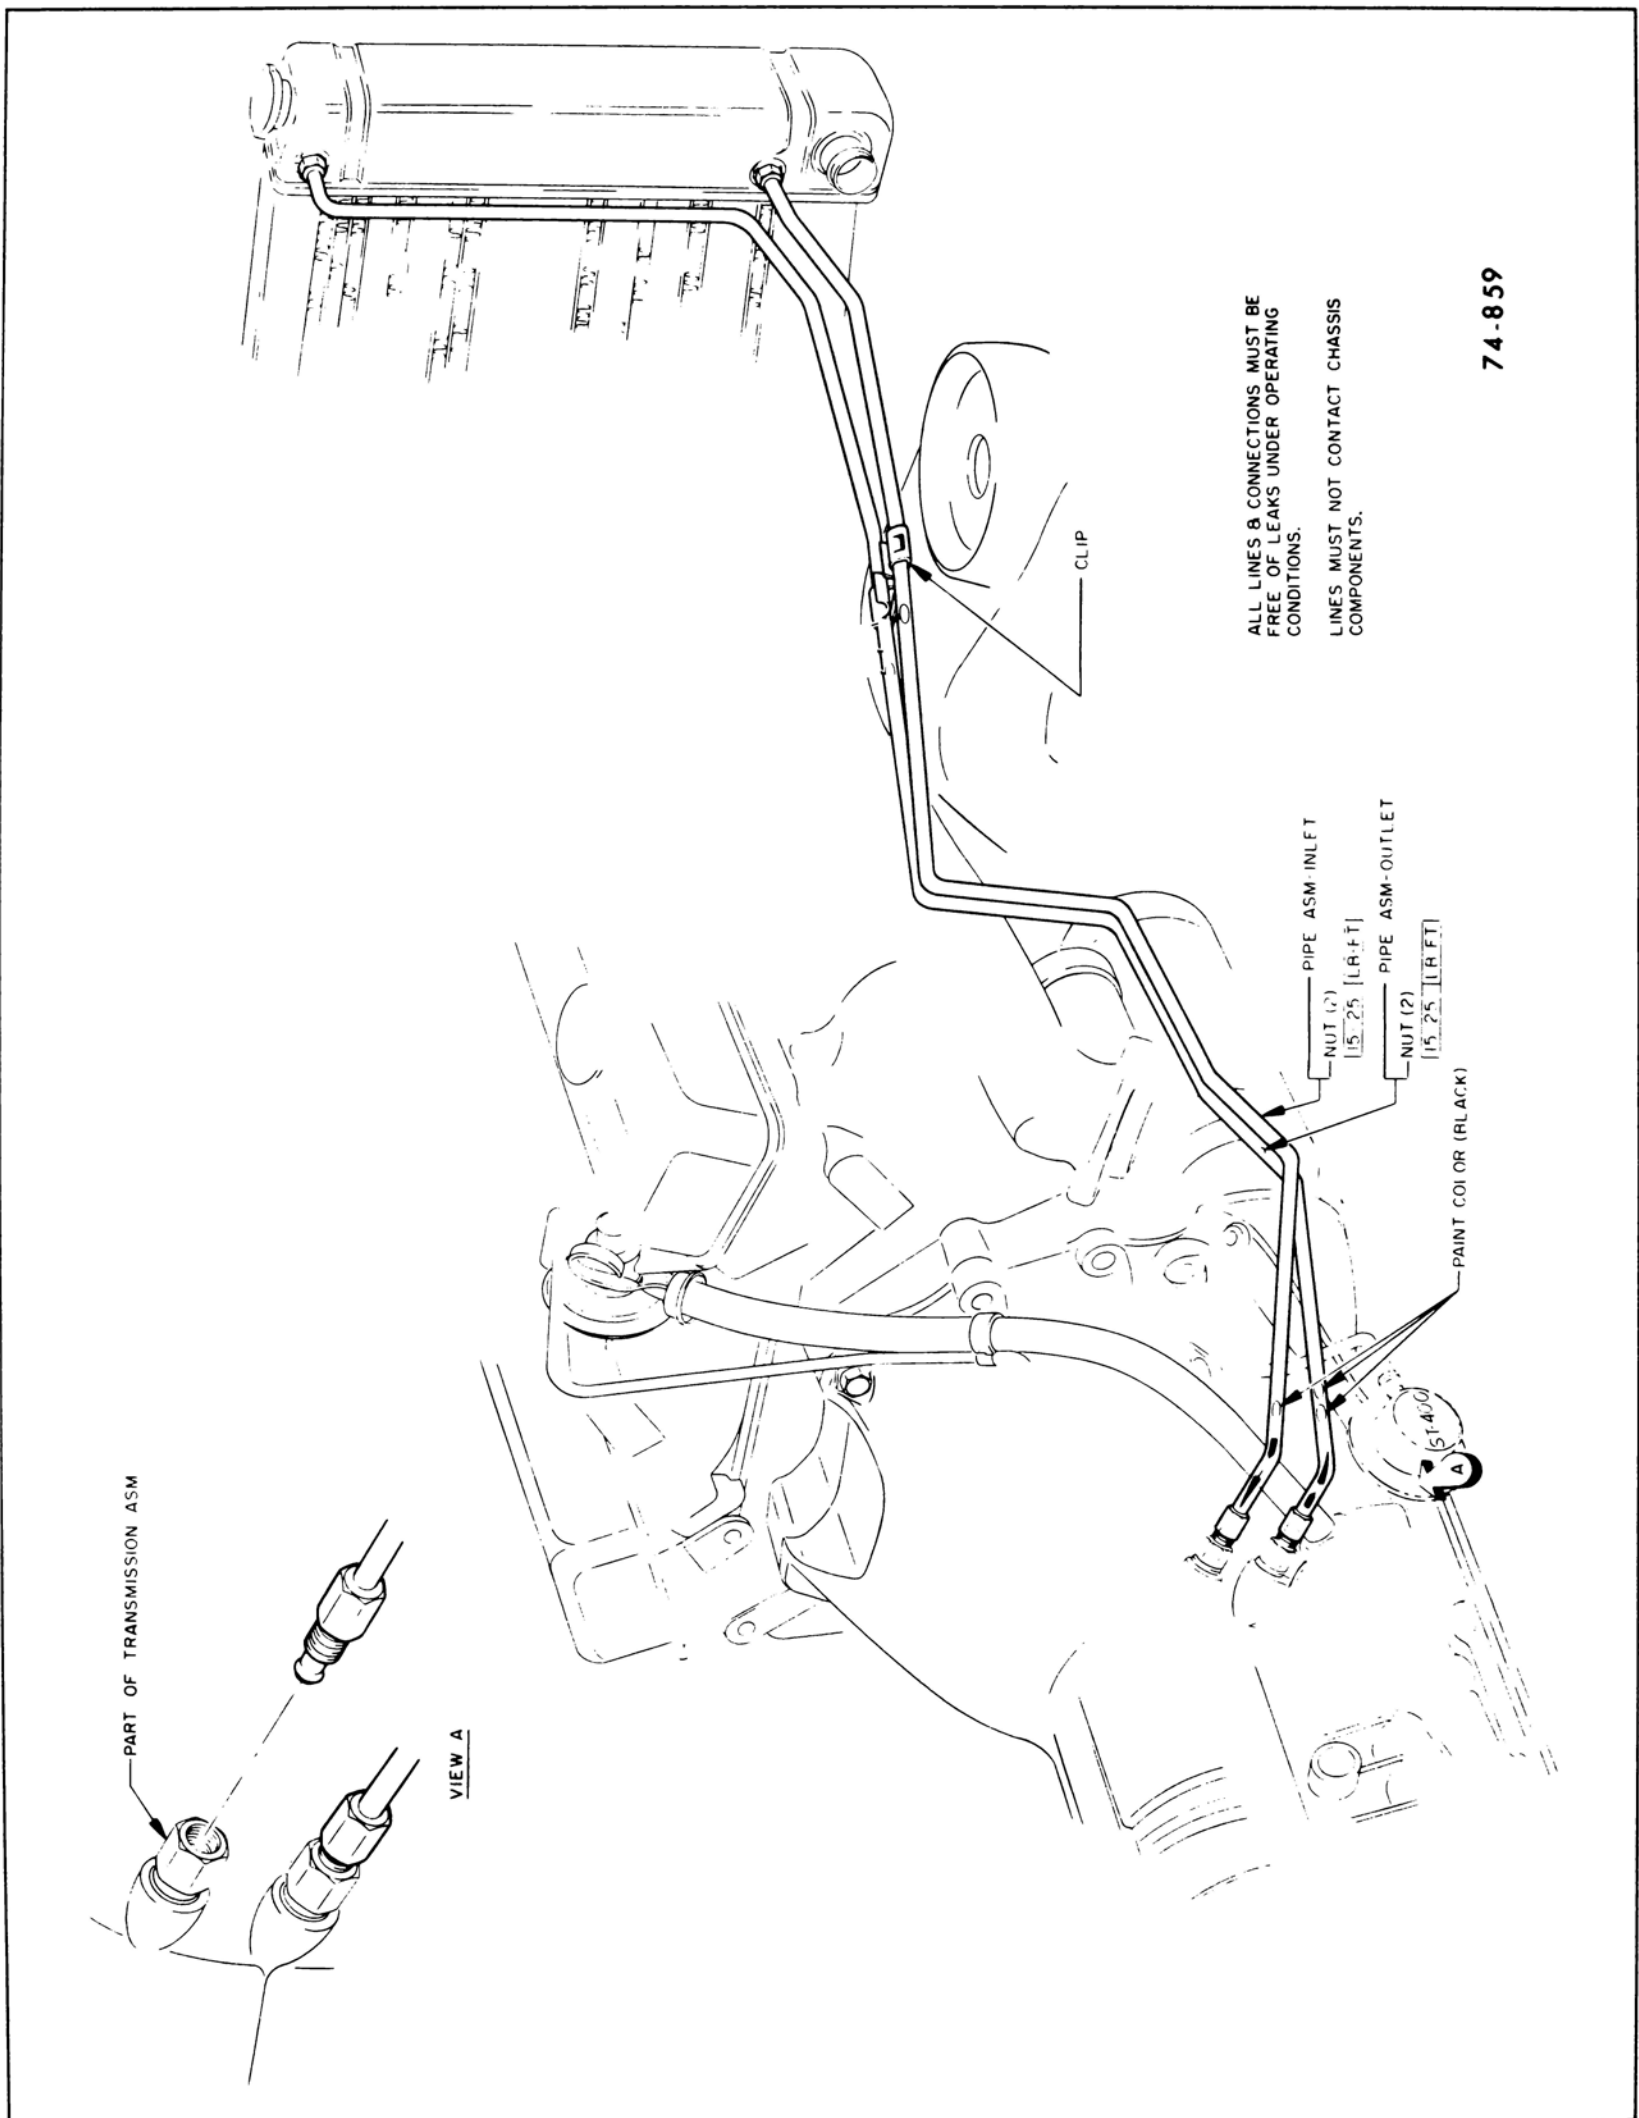

Figure 74-503—Oil Cooler Lines
6. Loosen cooler line nuts and separate cooler lines from transmission. See Figure 74-503.
12. Install oil cooler lines to transmission. See Figure 74-503.